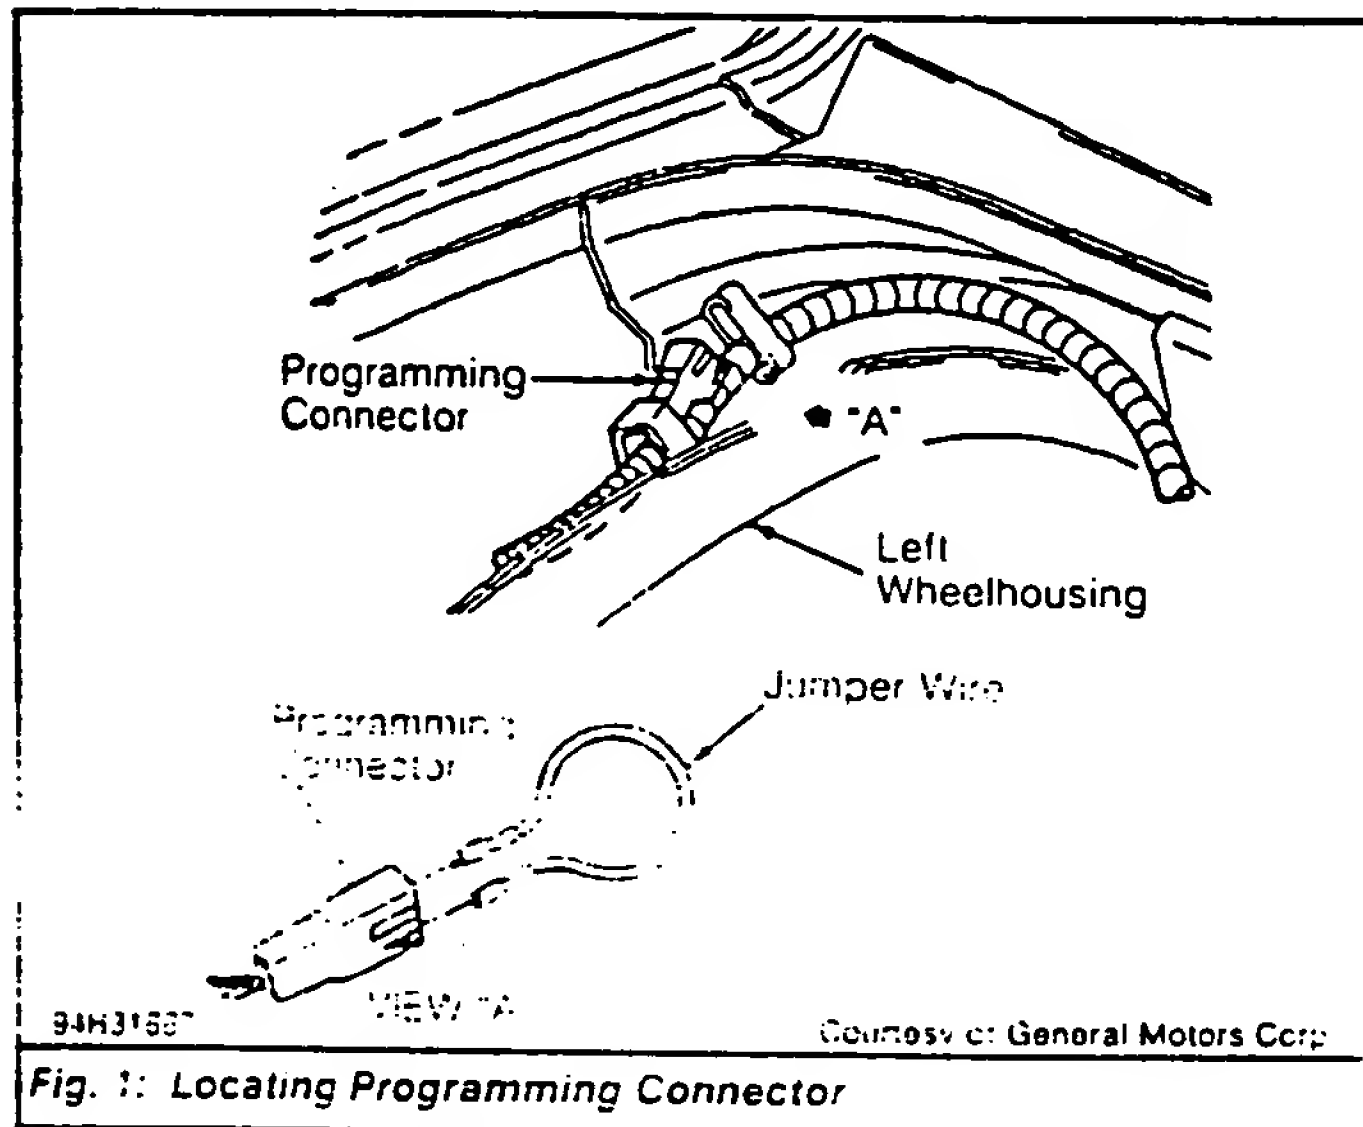

Fig. 1: Locating Programming Connector
2) During programming of keyless entry module receiver, feedback is provided by receiver by cycling door locks. To program a keyless entry module receiver to match the VAC of 1-2 transmitters, use a jumper wire and jumper 2 terminals of keyless entry module program connector. Program connector is located in front of left rear inner wheel panel, inside trunk. See Fig. 1.
**Removal & Installation** - Remove door outside protective molding. Remove door trim panel. Remove door accessory mounting plate. Drill out antenna mounting rivets. Disconnect harness connector and retaining clip. Remove antenna by pulling firmly on each adhesive pad. See Fig. 1. To install, reverse removal procedure.